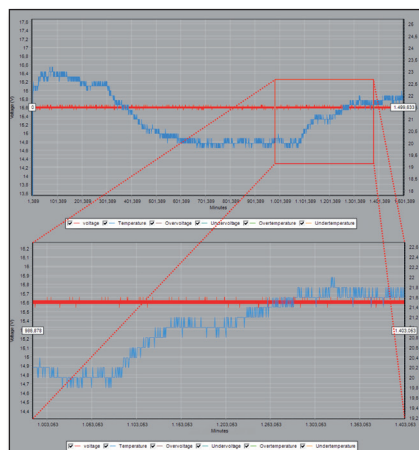

Figure 19: Zooming in
- Step 7a. Navigate through the graph to find details. Also see item 2: Graph navigation from the Operation section.
- Step 7b. In addition to the 'Graph navigation panel', you can also use your mouse to navigate through the graph. You can zoom into the selected area by dragging from the left at the top to the right at the bottom over the area to be inspected while keeping the left mouse button pressed. You can zoom out by dragging from the right at the bottom to the left at the top while keeping the left mouse button pressed or by pressing the 'Zoom out' button. Figure 19 displays an example of zooming in.